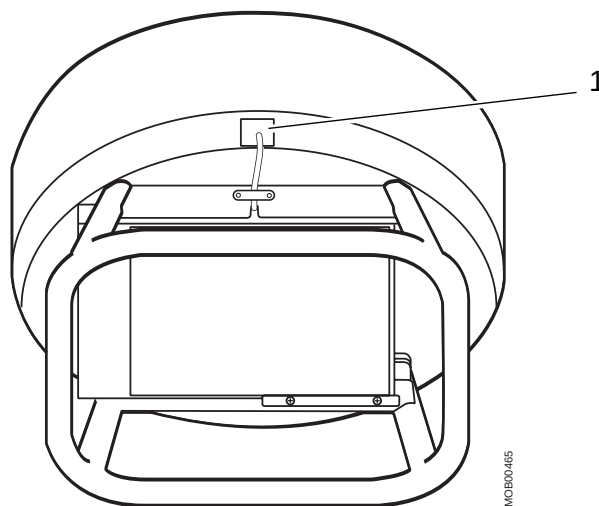

Fig. 1 Connector
- Disconnect the DAP ionization chamber connector which is connected to board D70 (pos. 1 / Fig. 1).
- Remove the DAP calibration tool and reconnect the DAP ionization chamber to board D70 (pos. 1 / Fig. 1).